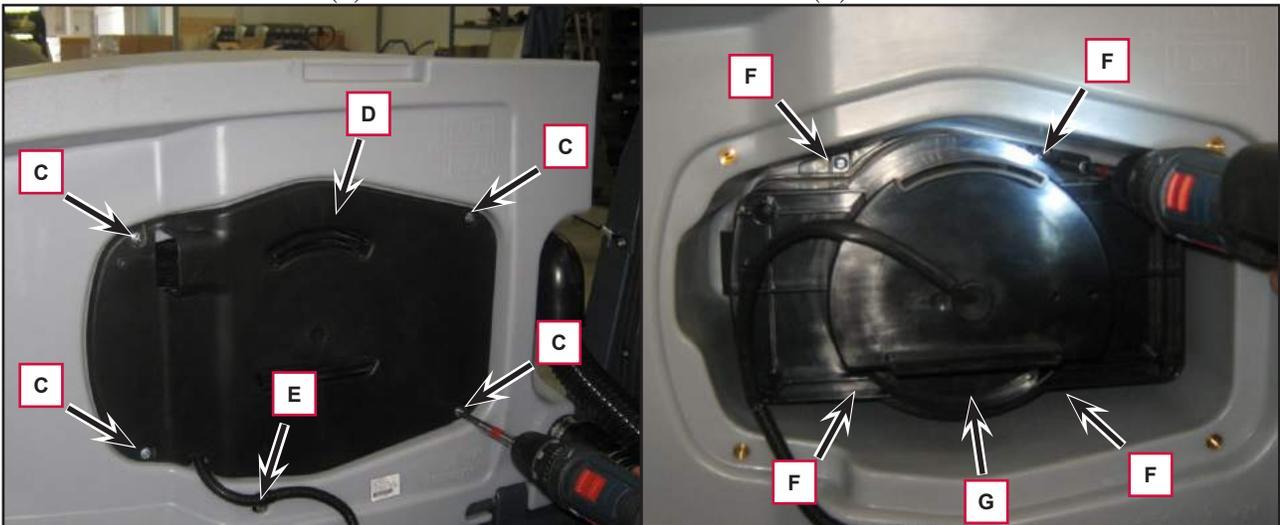

Figure 7
5. Unscrew the 4 screws (C) (Figure 7) and remove the case (D).
6. Unscrew the screw (E) holding the vacuum motor wiring.
7. Unscrew the 4 screws (F) and remove the vacuum motor unit (G).